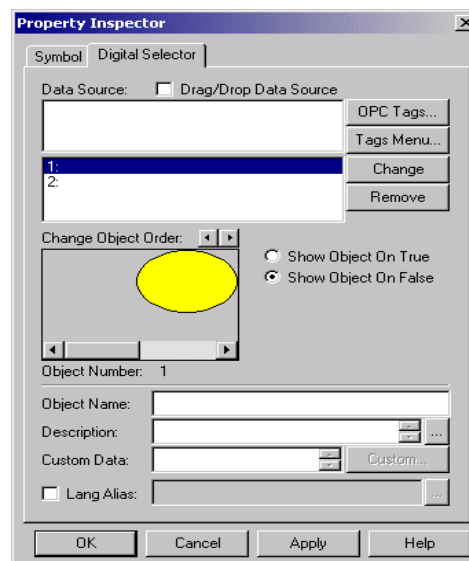

Figure 5.54
13. In the Property Inspector shown in **Figure 5.54**, select **1:** (representing the first object) and click **OPC Tags**.